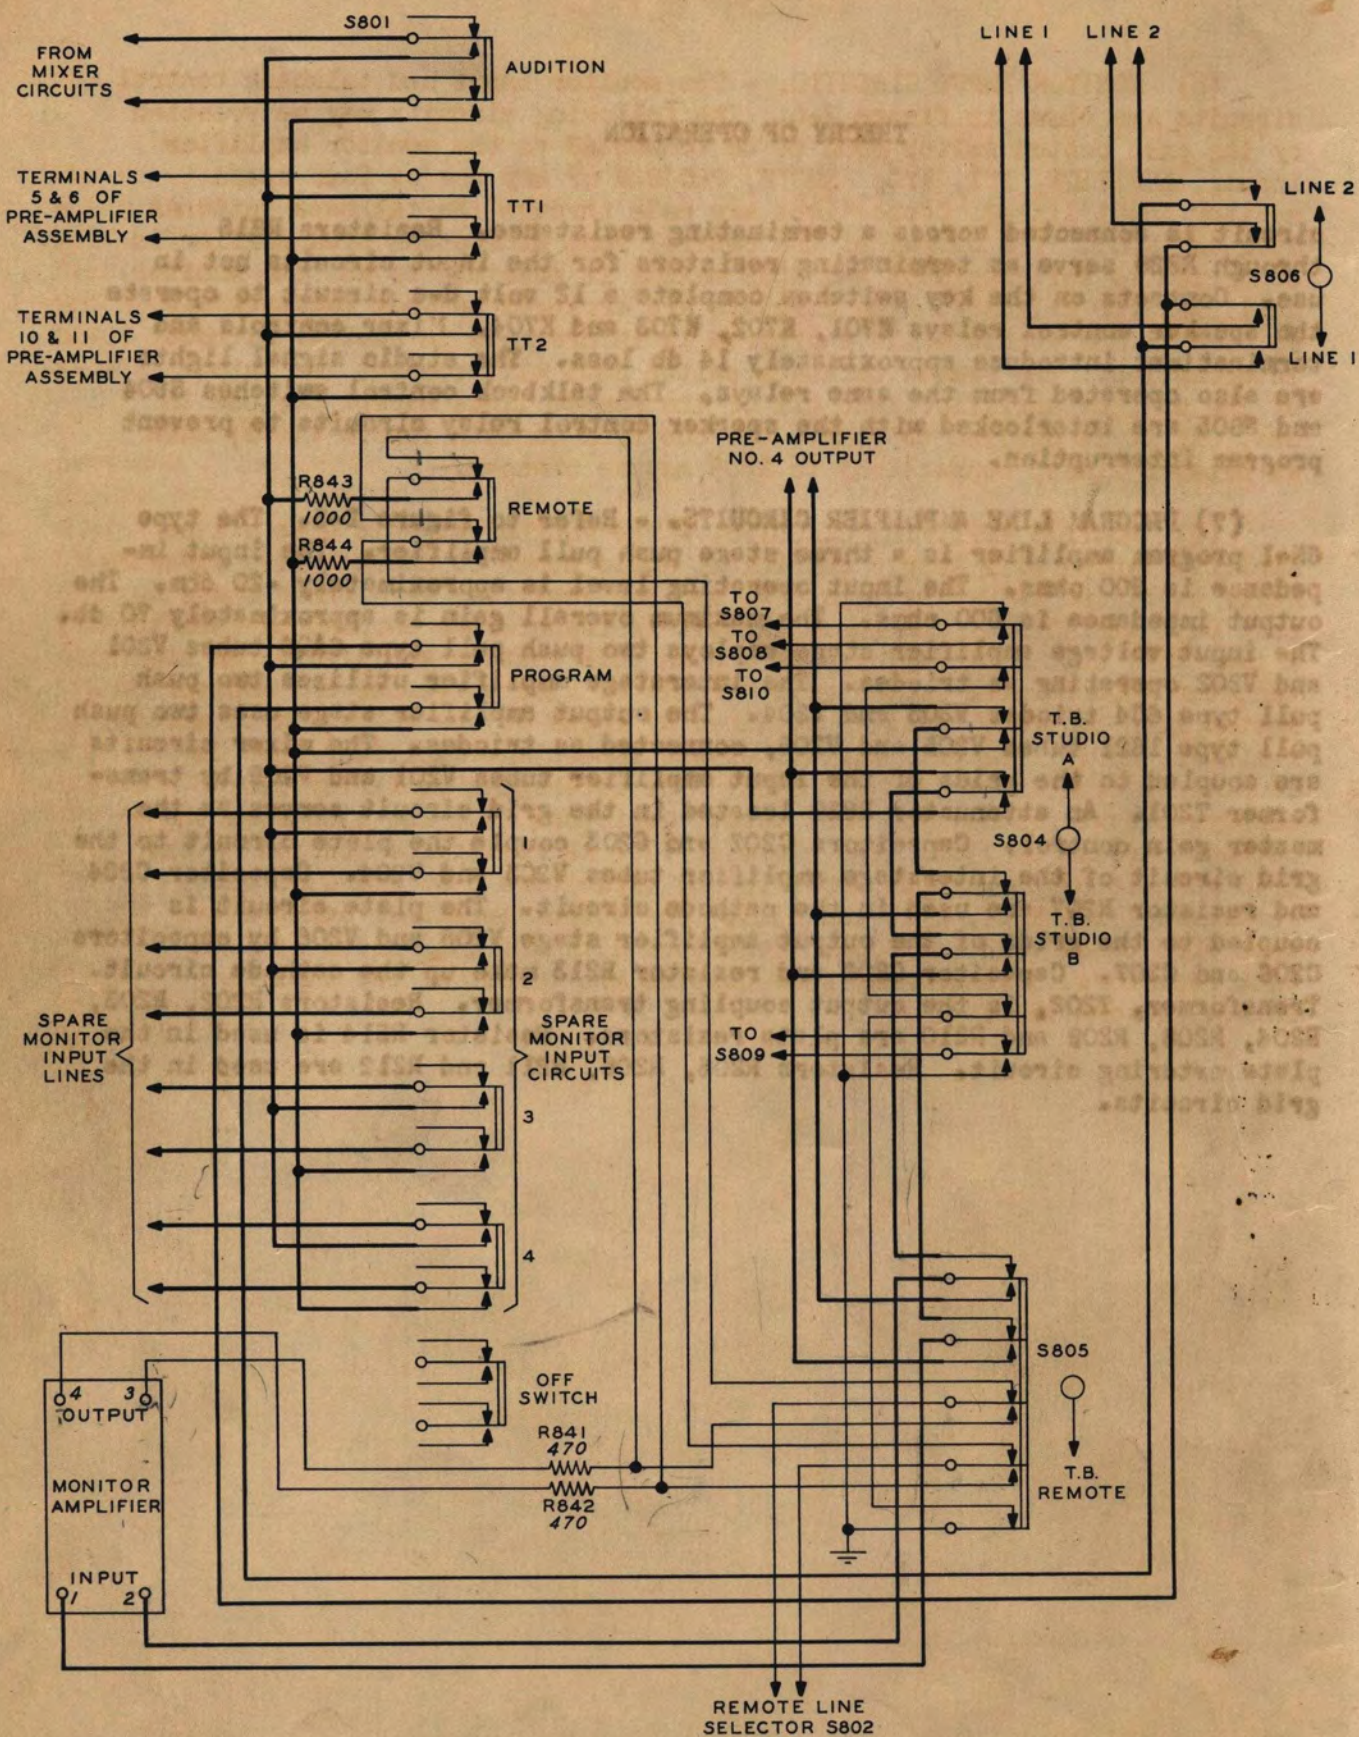

Figure 2-6 Monitor Input Circuits
(8) MONITOR INPUT CIRCUITS. - The monitor input and talkback control circuits are shown in figure 2-6. The following circuits may be selected by the push button switch S801 to be connected to the monitor amplifier input: AUDITION, TT1, TT2, REMOTE, PROGRAM or any one of four spare monitor input lines. Connections are made through the talkback switches S804 and S805. The output of the control room microphone preamplifier is connected to switches S804 and S805 making it possible to use the monitor amplifier for talkback. The circuits are arranged so that talkback may be used in one studio while a program is in progress in another without interruption. The remote talkback switch S805 will connect the output of the monitor amplifier into all of the remote lines except the one in use. If it is desired to remove the cue from certain remote lines, such as network lines, connections to S805 may be changed.